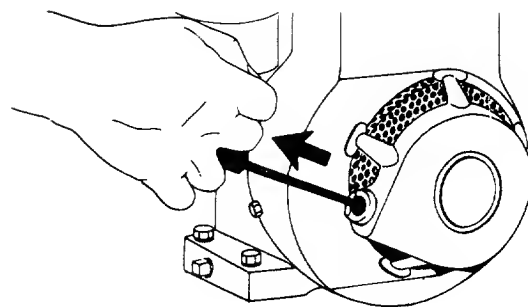

FIGURE 15.
5. Grasp starter handle (see figure 15) and pull rope out slowly until engine reaches start of compression cycle (rope will pull slightly harder at this point). Let the rope rewind slowly.